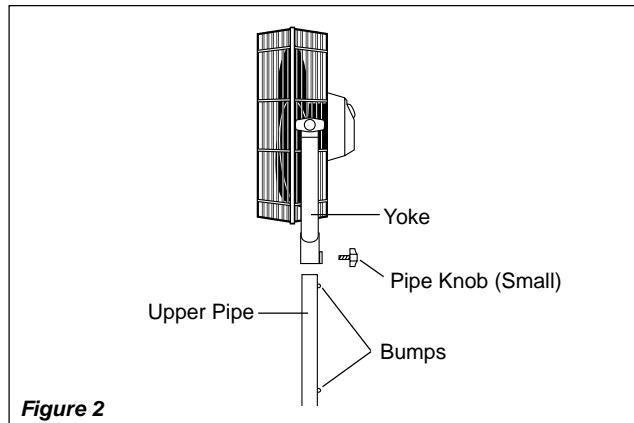

Figure 2
2. Make sure Bump on Upper Pipe is aligned with formed section of Yoke. Insert Upper Pipe into Yoke. To ensure fit is tight, twist Upper Pipe until it is tight inside of Yoke. (Figure 2)